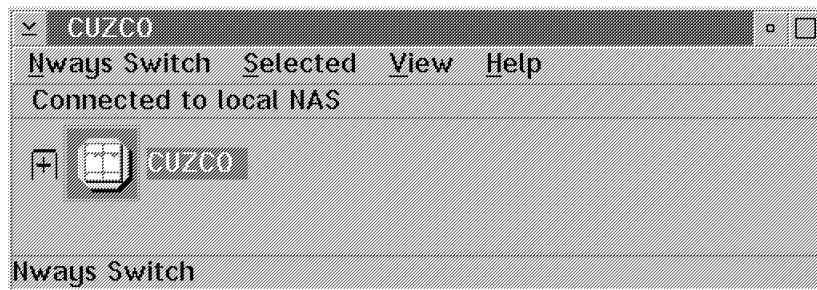

Figure 4. N Ways Switch screen.
- \_\_\_ 2. If the *Nways Switch Screen, (See Figure 4.)* is displayed go to 10.1, “Export the Active Configuration..”